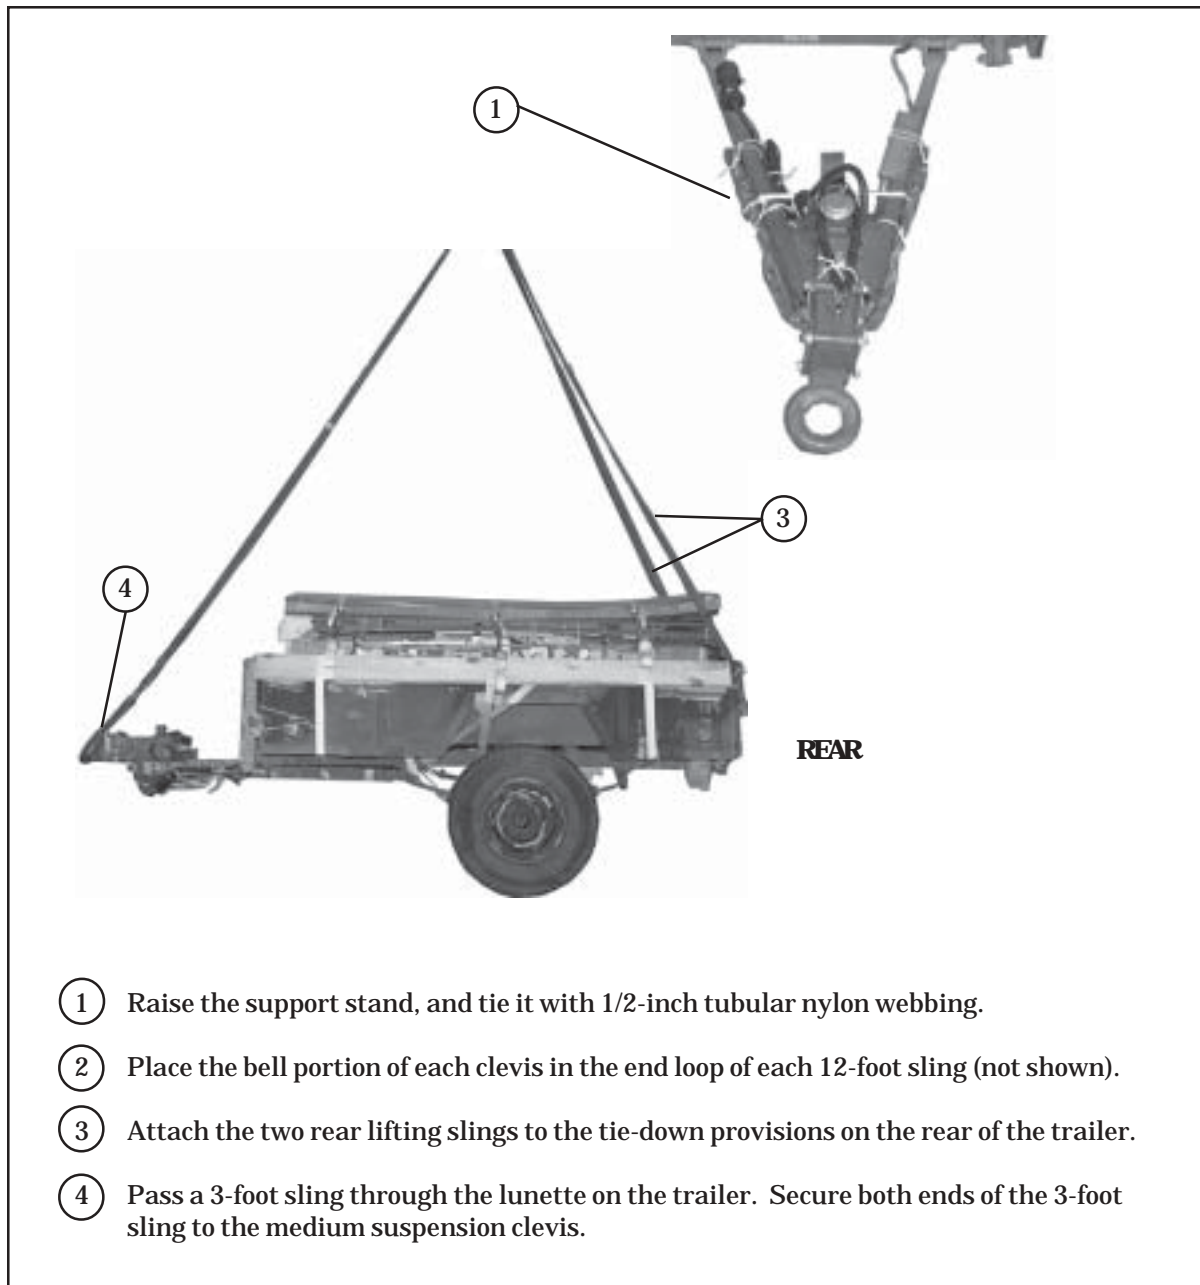

Figure 18. Trailer Support Secured and Lifting Slings Installed
7. Raise and secure the trailer support stand as shown in Figure 18. Use three 12-foot (2-loop), type XXVI nylon webbing slings; one 3-foot (2-loop), type XXVI nylon webbing sling; and three medium suspension clevises to lift the trailer.